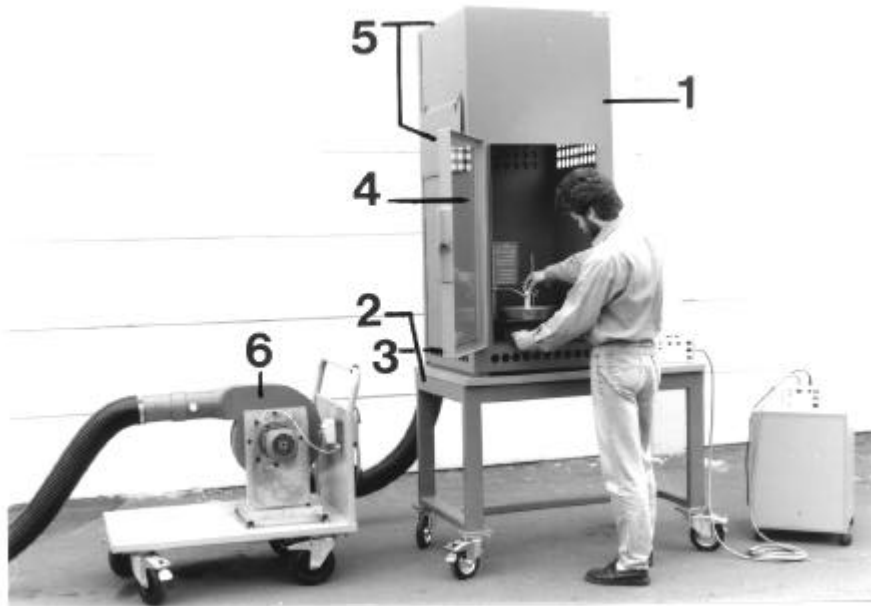

Fig.1 Test Chamber for pyrotechnical experiments, opened for preparation of charge
### **4.2 EXHAUST (6) (see Fig. 1)**